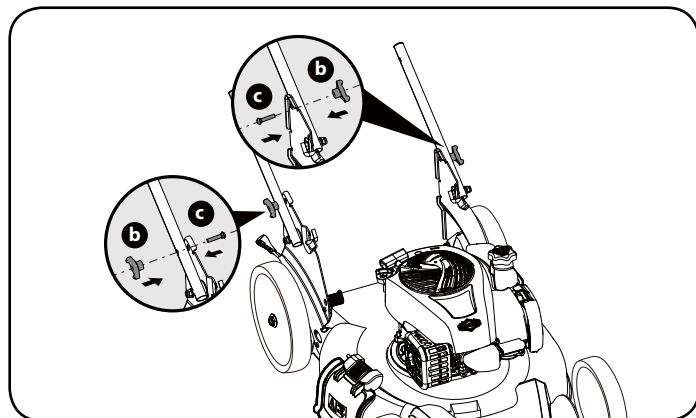

Figure 2
2. Fasten the lower handle to the handle bracket by using 1 knob (b) and 1 bolt (c) on each side. (Figure 2)